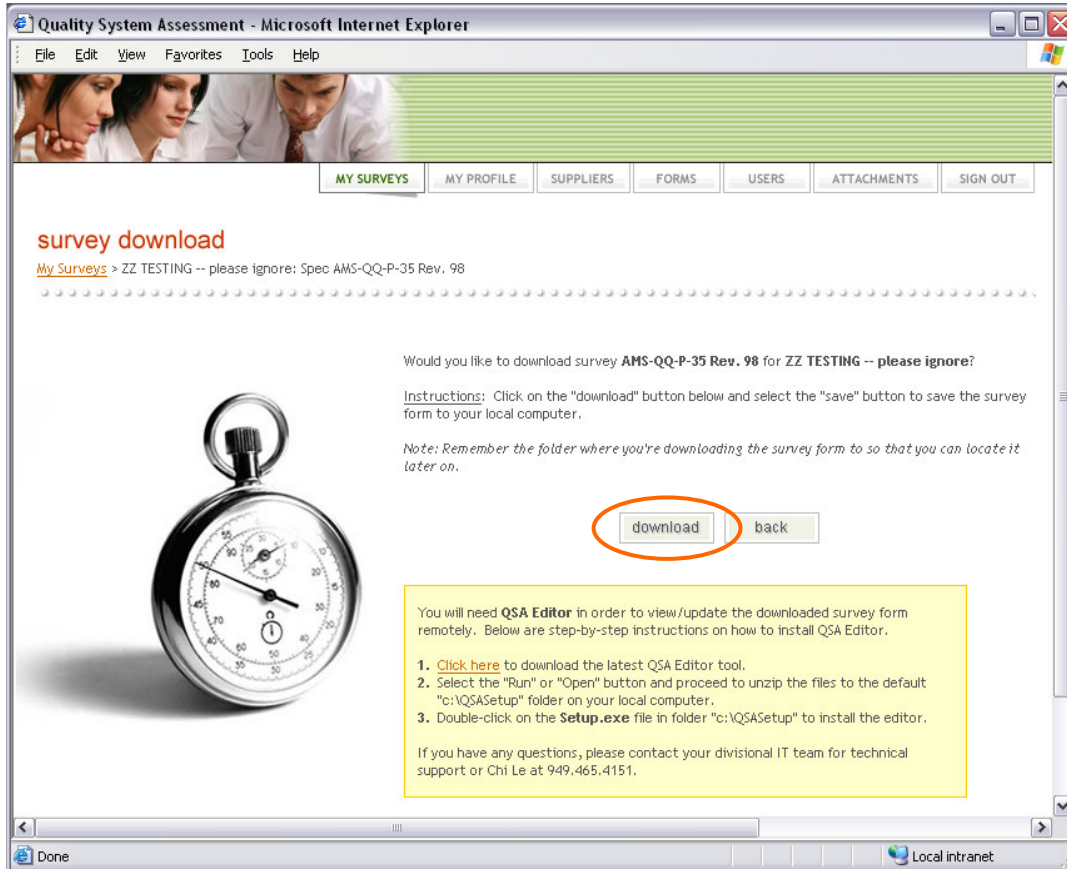
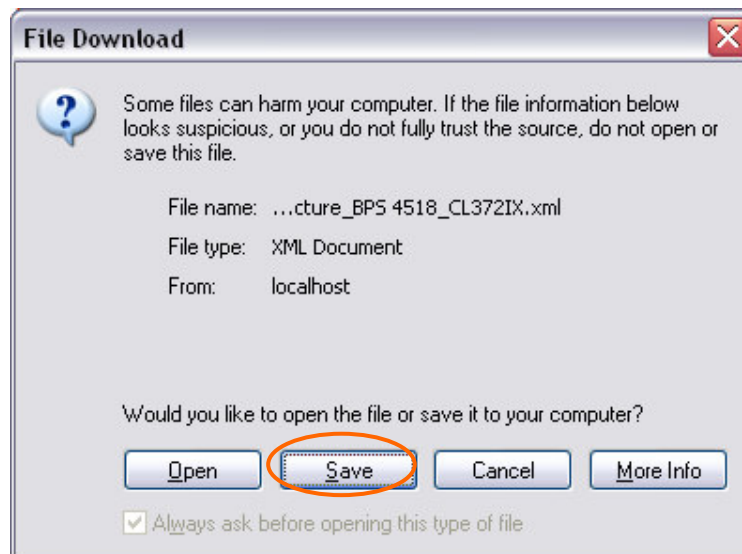

Figure 19 – Download Survey
Figure 20 – Save Survey To Laptop
- At the "survey download" page (as shown in figure 19), click on the "download" button. You will see a pop-up window similar to figure 20. Click on the "save" button to save the file to you laptop. DO NOT click on the "open" button!